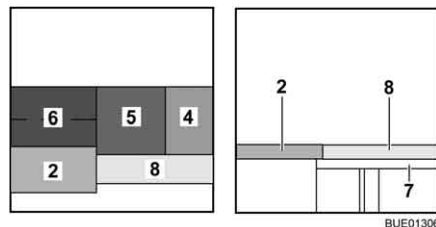

Fig. 129 After conversion
- Place the seat cushion (Fig. 129,5) in the centre.
- Place the back cushion (Fig. 129,4) between the seat cushion and the wall.
- Hook the bed widening (Fig. 129,7) into the recesses on the bench seats.
- Place the additional cushion (Fig. 129,8) on the bed widening.